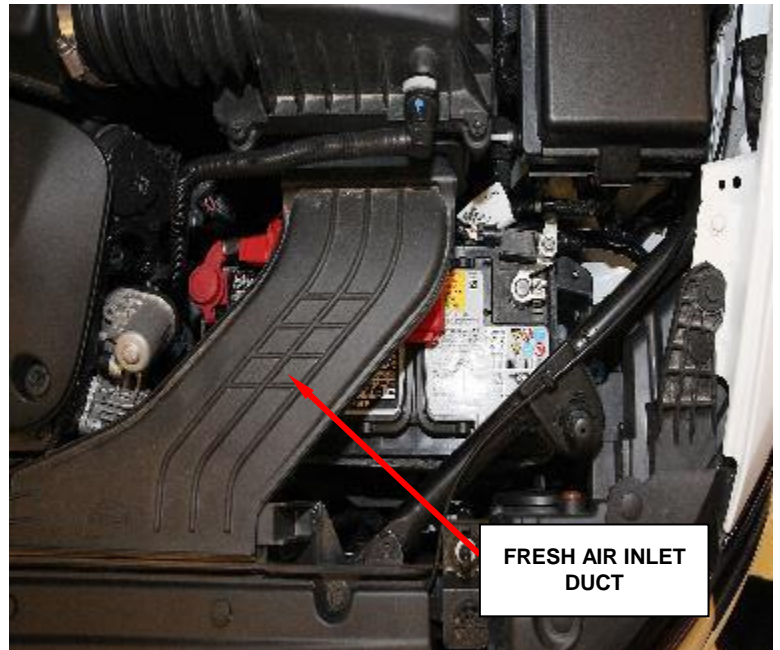

Figure 1 – Fresh Air Inlet Duct
2. Remove the fresh air inlet duct (Figure 1).